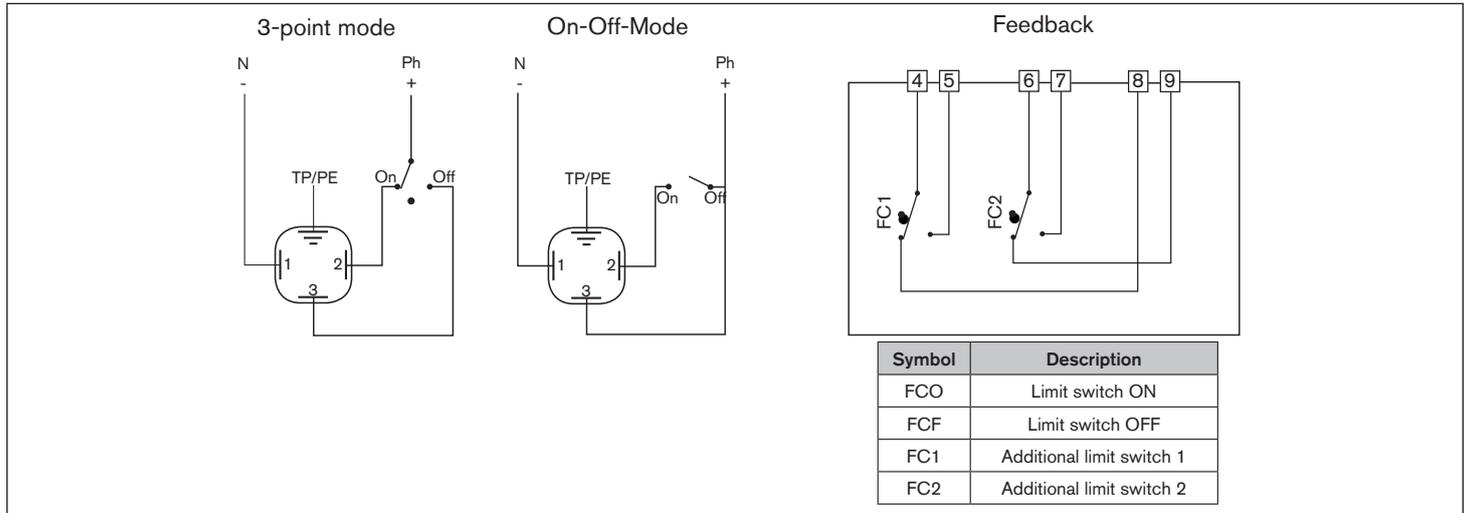
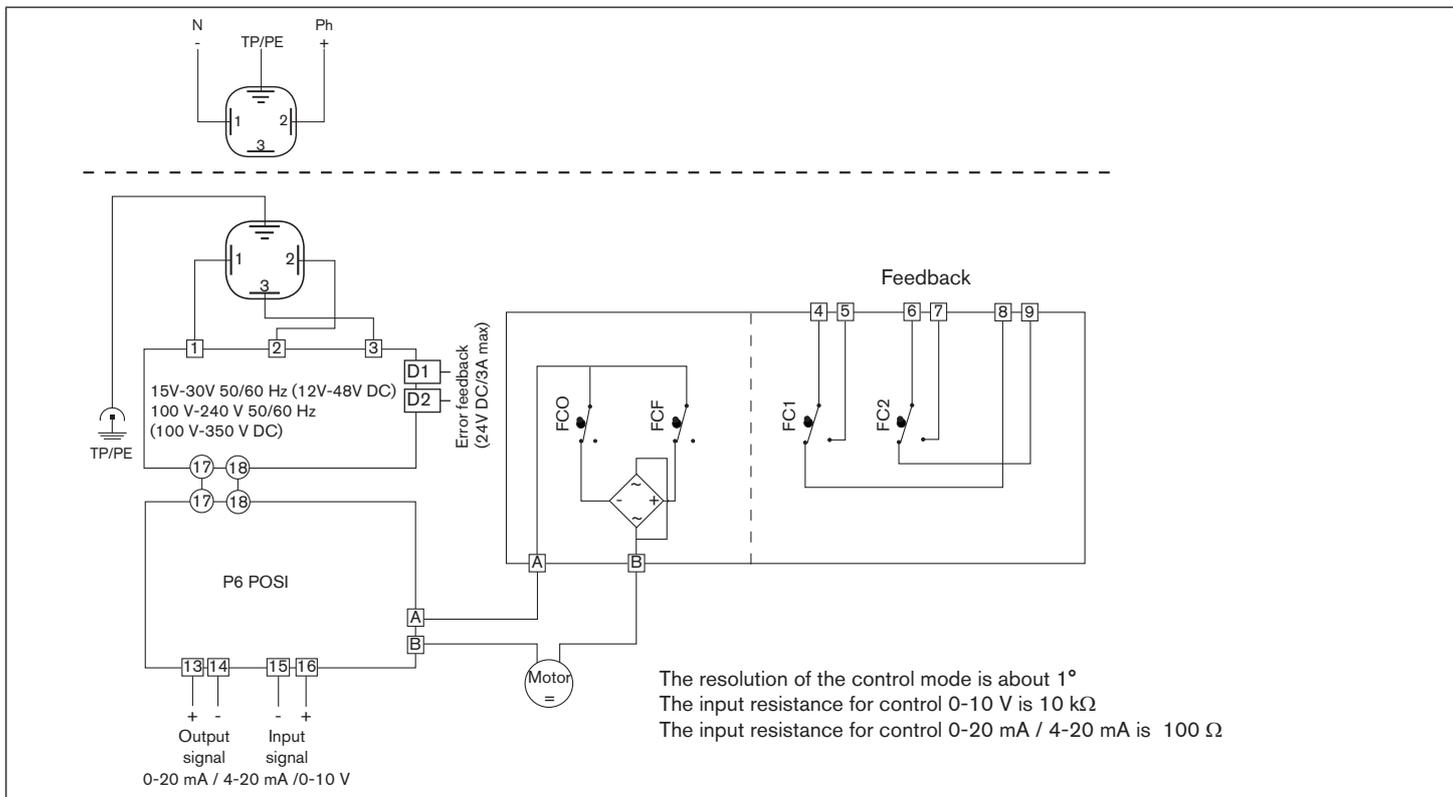

Fig. 2: Open/Closed version
Fig. 3: Version with analog signal input
- Wire the connections of the additional limit switches (FC1 and FC2) according to the circuit diagram figures (see “Fig. 2” and “Fig. 3”).